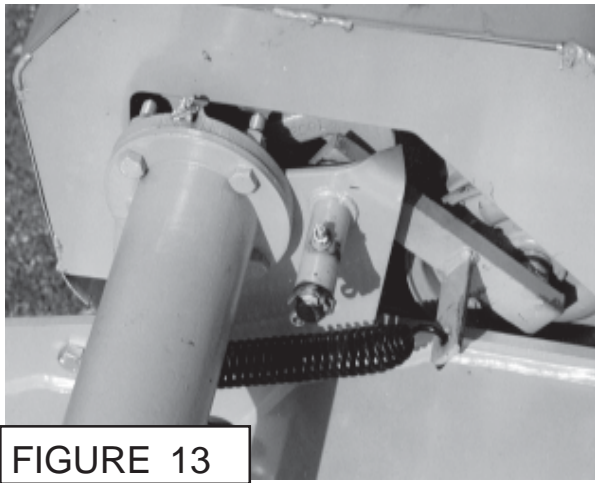

FIGURE 13
8. Slip clutch is incorporated in the PTO driveline. It is designed to slip, absorb the shock load, and protect the driveline. It is important that the clutch lining plates slip when an obstacle or load heavier than clutch setting is encountered. Therefore, if the machine sits outside longer than 30 days and is exposed to rain and/or humid air it is important to make sure that the clutch lining plates are not rusted/corroded together. Before using the mower use the following procedure to make sure the clutch will slip and give the overload protection required. (See Figure 13) This is a required step because the driveline has been sitting and may be stuck.